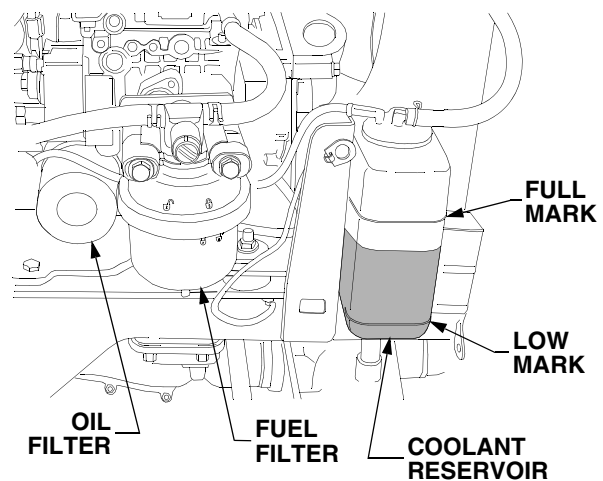

Figure 53
- Remove the filter by turning it counterclockwise using an automotive type filter wrench to loosen. See Figure 53.
- Raise the tractor hood and check the coolant level in the overflow reservoir on the *right* side of the engine. Refer to Figure 53.